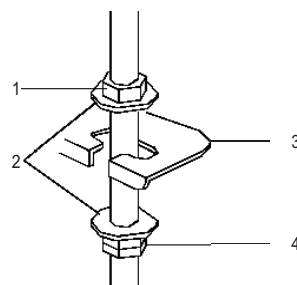

Fig. 8 - Secure the Hanger Bracket
- b. Secure the hanger bracket (see Fig. 8).